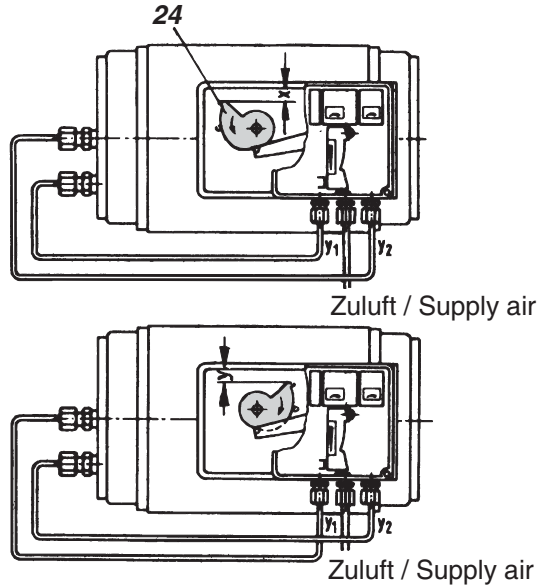

Fig.15: Rotary actuator with attachment kit for rotary movement and double-acting positioner
- d) Mount cam **24** in accordance with the direction of rotation of the actuator (see Fig. 14). The linear cam is fastened to the actuator drive shaft in such a manner that the dimension x or y (Fig. 15) amounts 2 mm, whereas in case of equal percentage cam the dimension x is approx. 17.5 mm, and the dimension y is approx. 21.5 mm. In case of inverse equal percentage cam the dimension x is approx. 18 mm, and the dimension y is approx. 23 mm. When employing equal percentage and the inverse equal percentage cams, the range spring FES 627/1 must be installed in the positioner.
exchange positioner outputs and reverse cam (see Fig. 15). The changeover plate (page 31, item 13) remains in 'N' setting.